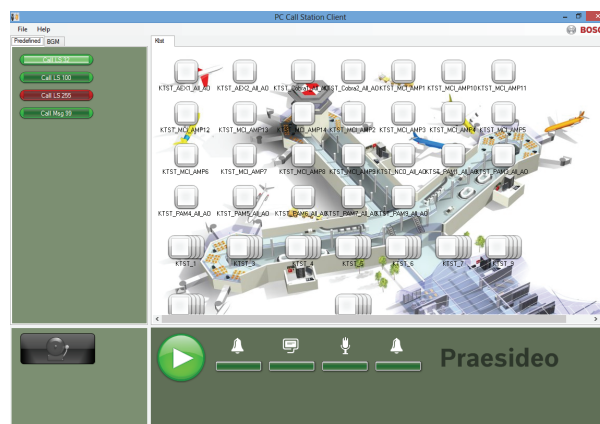

figure 62.2: Predefined calls tab
- 7 Press the *OK* button. A screen similar to the one in figure 62.2 appears.